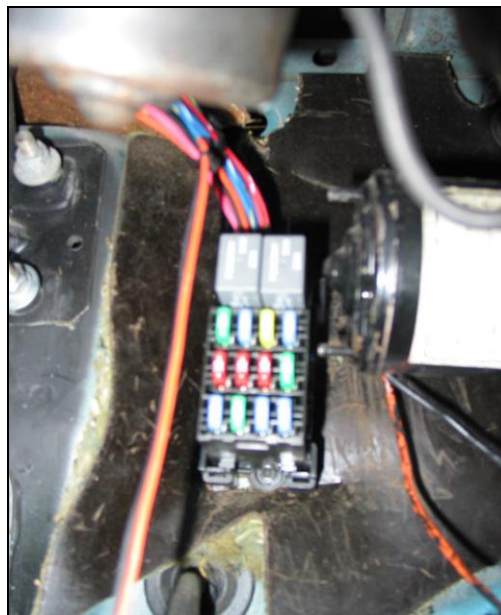

Figure 6-4 Fuse Block Snapped Into Base
- 6.1.2** Route the fuse block and attached harness through the instrument cluster opening, down past the wiper motor and snap it into the fuse block base. **See Figure 6-3 and Figure 6-4.** (Note: The fuse block does **not** need to be grounded.)